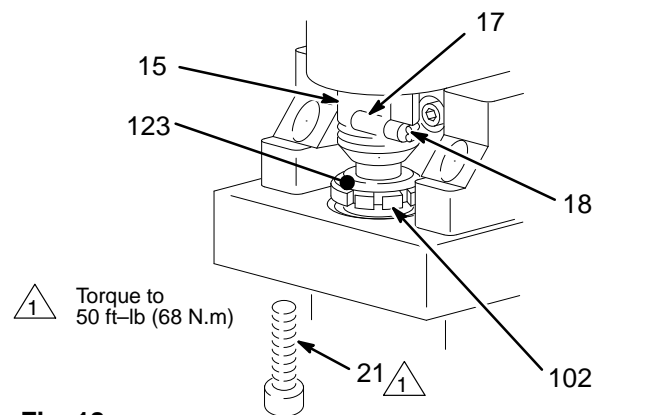

Fig. 18
- a. Remove the pump connecting rod pin (17). See Fig. 18, page 21.
11. **Break in the brushes.** Operate the sprayer for at least one hour with no load. Install the pump connecting rod pin. See Fig. 18, page 21.
### Installing the pump (See Fig. 18 and 19.)
Be sure the retaining spring (18) is firmly in the groove all the way around, to prevent the pin (17) from working loose due to vibration. See Fig. 18.